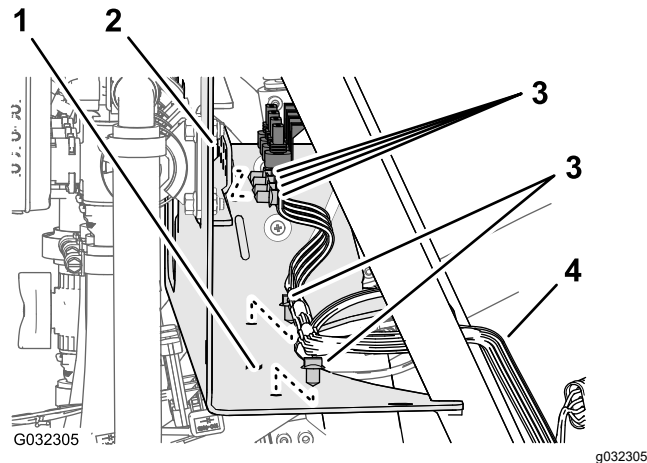

Figure 24
3. Remove the push-in fasteners that secure the rear wire harness to the holes at the forward side and lower plate of the manifold mount (Figure 24).